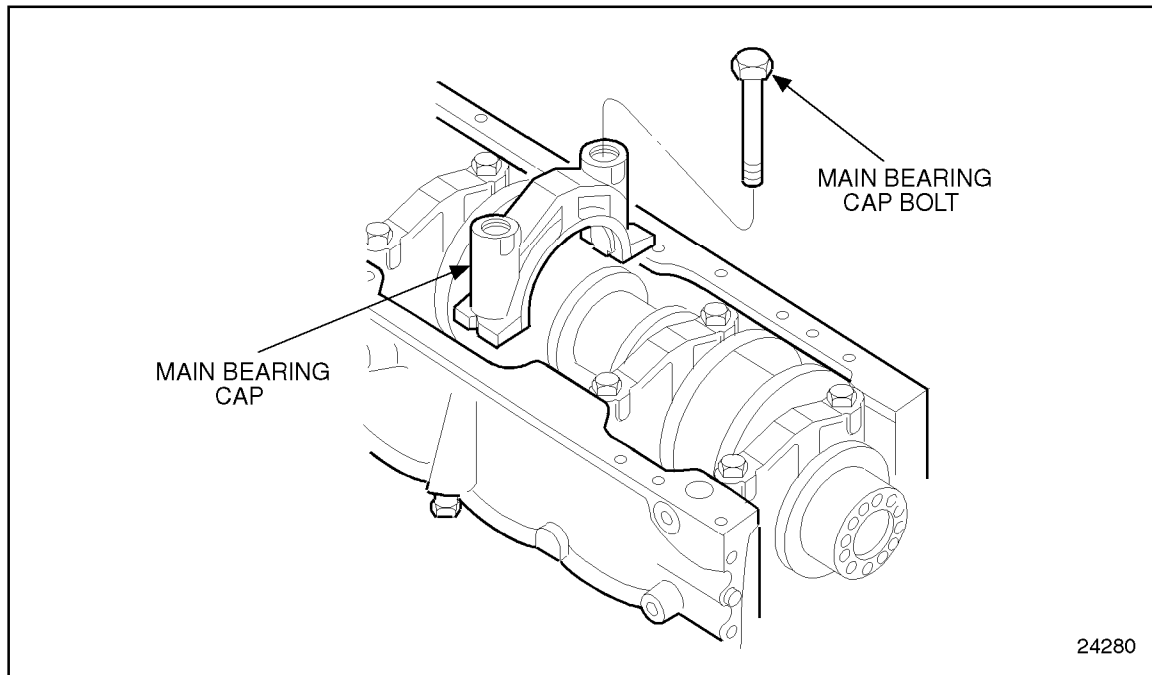

Figure 1-118 No. 4 Main Bearing Cap Installation
6. Install the main bearing caps together with lower bearing shells in place. Install the main bearing cap bolt. See Figure 1-118.